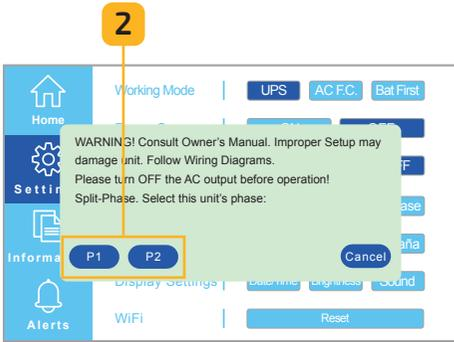

Fig. 6.25 Select P1 or P2 option
2. Select the **P1** or **P2** button (Fig. 6.25).